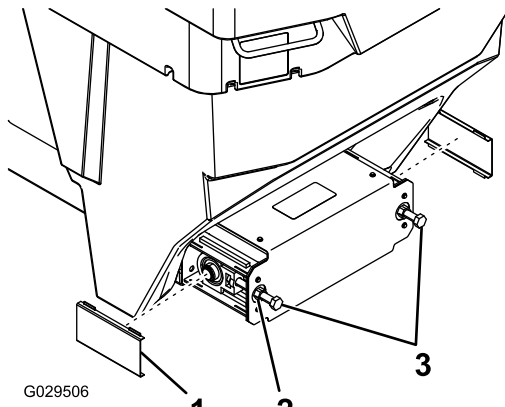

Figure 24
3. To adjust the tension, remove the plastic covers from each side of the take-up housing (Figure 24).
4. Loosen the jam nuts (Figure 24).